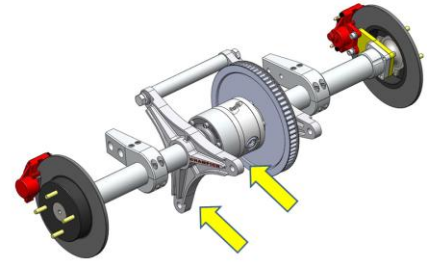

Figure 8
- b. Apply 2-3 drops of oil to threads of 3/4" front cross tube bolts and assemble to specified torque of 150 lb. ft. Figure 8
- c. Remove two remaining cross tubes for later installation. Figure 8
- a. Install rear axle clamps from Box 2 using the supplied hardware. The driver side clamp slot must register into dowel pin on rear end. (Note: The rear brake lines run through each clamp with nylon protective tube.) Figure 8